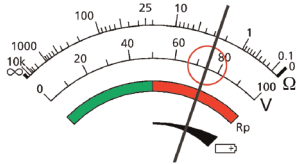

Figure 14: Analogue display indicating ground noise voltage measurement
3. A voltage reading will be indicated on the analogue display, as shown in Figure 14.